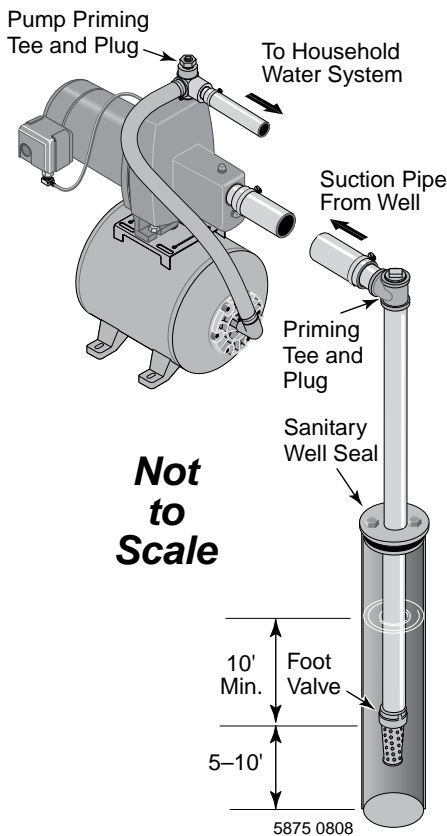

Figure 2: Cased Well Installation
Cased Well Installation, 2” or Larger Casing (Figure 2)
2. Assemble the foot valve, strainer, and well pipe (see Figure 2). Make sure that the foot valve works freely.
4. Install a priming tee, priming plug, and suction pipe to the pump (see Figure 2). Connect the pipe from the well to the pump suction port, using the fewest possible fittings – especially elbows – as fittings increase friction in the pipe (however, include a foot valve – see Figure 2). The suction pipe should be at least as large as the suction port on the pump. Support the pipe so that there are no dips or sags in the pipe, so it doesn’t strain the pump body, and so that it slopes slightly upward from the well to the pump (high spots can cause air pockets which can air lock the pump). Seal the suction pipe joints with PTFE pipe thread sealant tape. Joints must be air- and water-tight. If the suction pipe can suck air, the pump cannot pull water from the well.